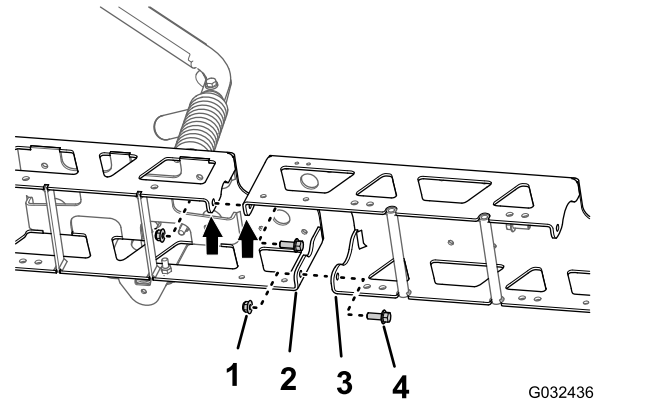

Figure 56
1. Align the holes in vertical flanges of the center-boom extension with the holes in the truss frame (Figure 56).
2. Loosely assemble the center-boom extension to the truss frame (Figure 56) with the 2 flange-head bolts (3/8 x 1 inch) and 2 flange locknuts (3/8 inch) that you removed in step 1 of Separating the Center-Spray Section Trusses (page 30).
3. Align the holes in vertical flanges of the center-boom extension with the holes in the other truss frame (Figure 56).
4. Loosely assemble the center-boom extension to the other truss frame (Figure 56) with the 2 flange-head bolts (3/8 x 1 inch) and 2 flange locknuts (3/8 inch) from the GeoLink spray system finishing kit (Figure 56).